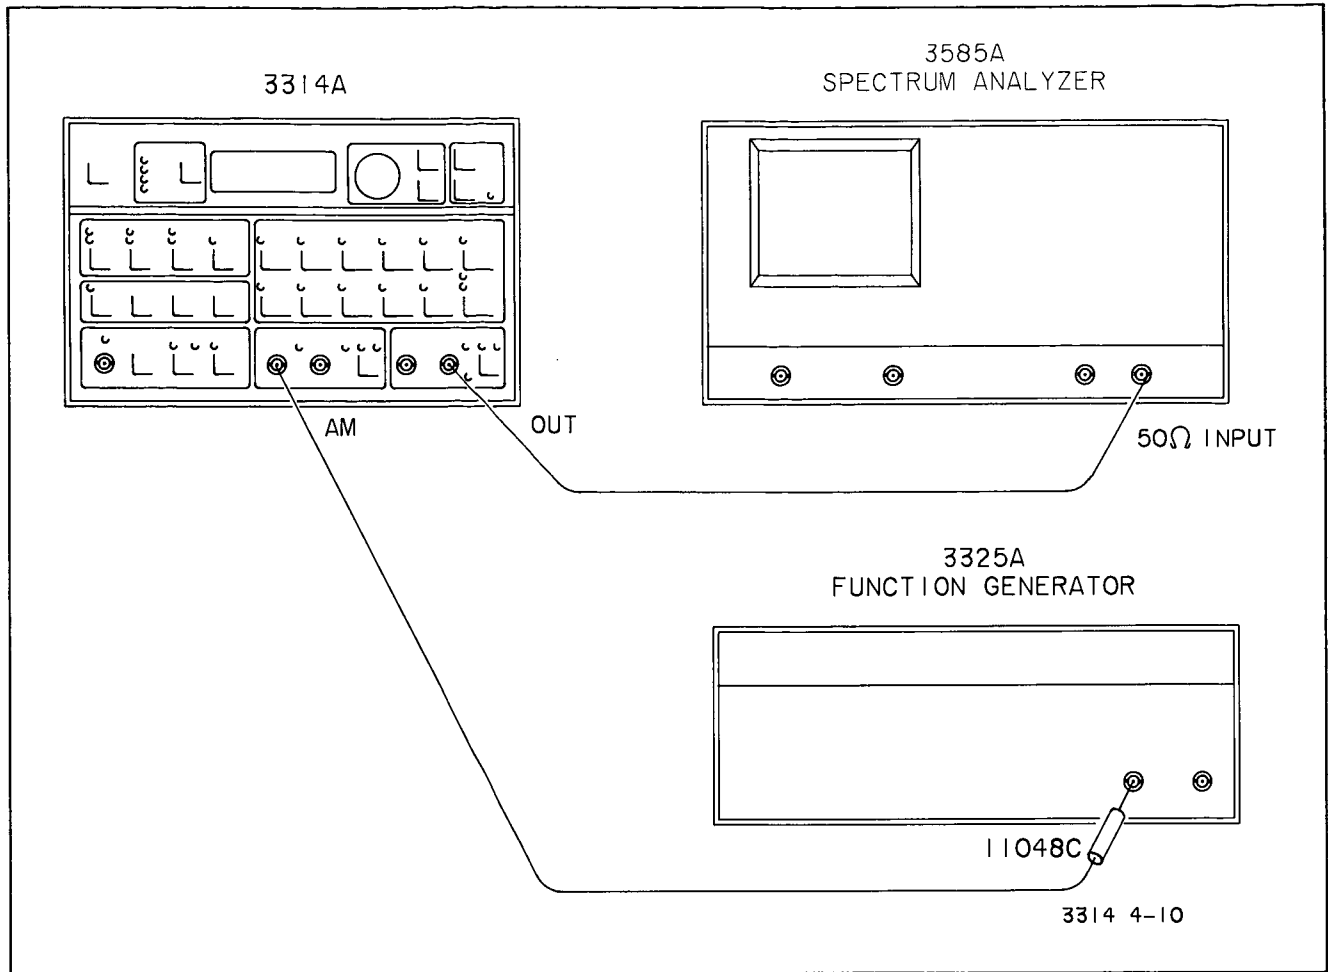

Figure 4-10. AM Harmonics
- E. Connect the 3314A to the Synthesizer and Spectrum Analyzer as shown in Figure 4-10.